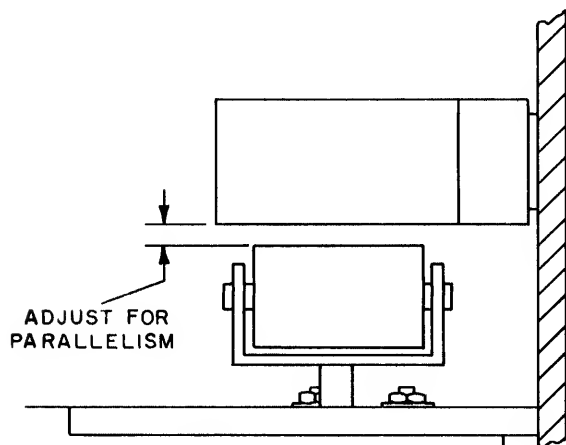

Figure 5-7. Pinch Roller and Capstan Parallelism
- d. Check front to back parallelism of pinch roller and capstan (see Figure 5-7).